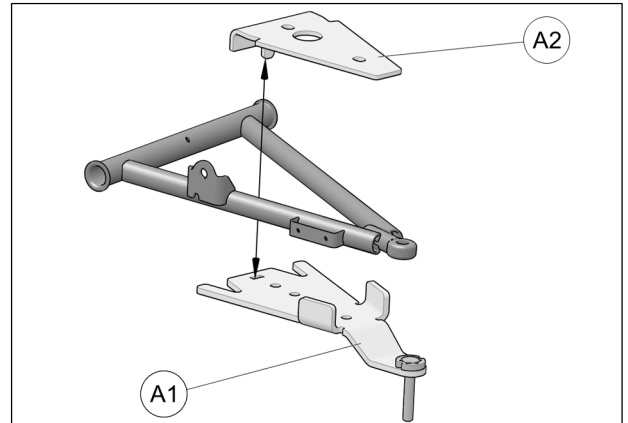

Fig. 16
5. Position bottom part of anchor bracket (A1) under lower suspension arm. Position top part (A2) over suspension arm and insert tenon in mortise cut in bottom part. See Fig. 16